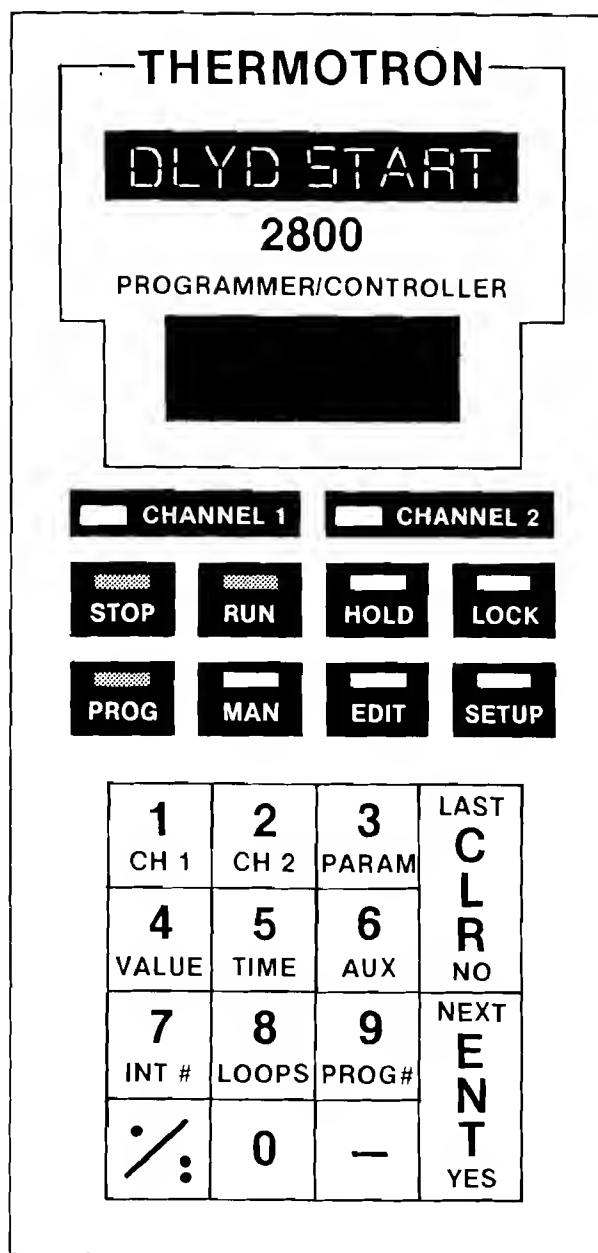

FIGURE 16
5. The 2800 recognizes that the real time clock is present. The display shows DLYD START. See Figure 16.